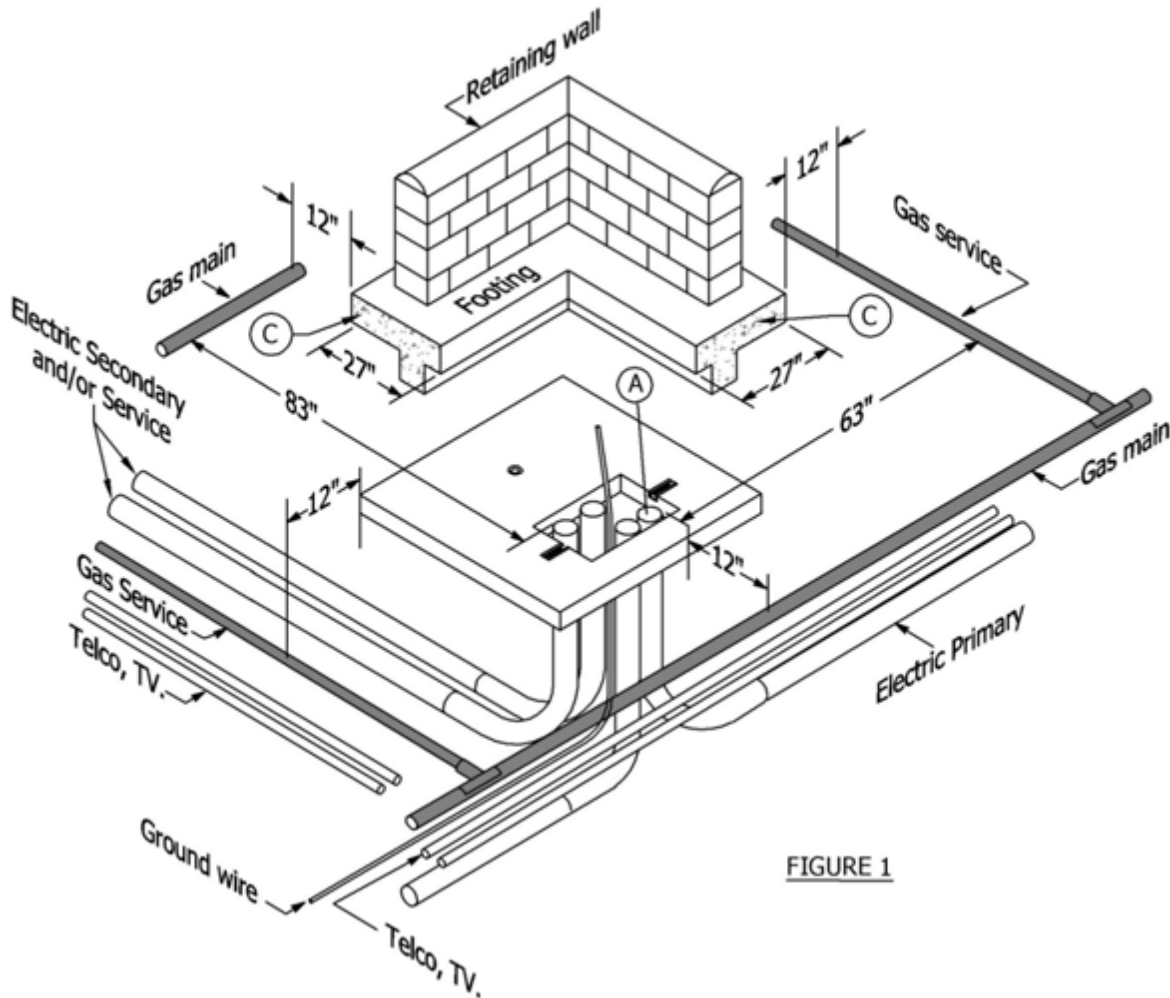

FIGURE 1
- (A) Positions of primary and secondary conduits entering and leaving padmounted equipment depend on type of equipment, such as single or three-phase transformers.
- (C) If retaining wall is to be installed, maintain 12" horizontal separation from footing. Footing width in Figure 1 is based on 4'-0" wall height with 3 to 1 slope.